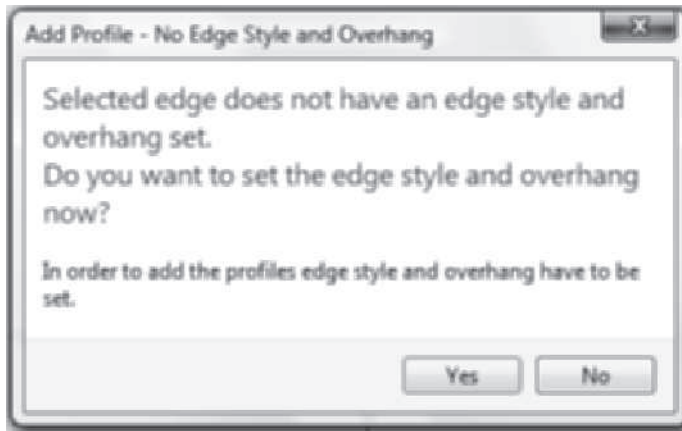

FIGURE 7.57 Add Profile – No Edge Style message box
2. Select a roof slab edge. If no roof slab edge style and overhang are defined for the edge, you are prompted to **Set the edge style** in the **Add Profile – No Edge Style** dialog box shown in Figure 7.57. If you choose **No**, the command will end. If you choose **Yes**, the Edit Roof Slab Edges dialog box opens.